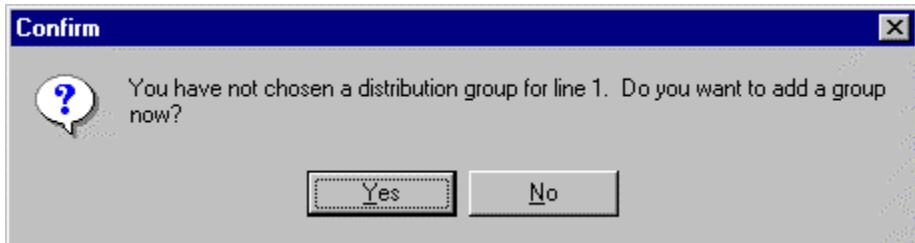

Figure 2-29. Purchase Order Confirm Dialog Box
- ◆ If it finds you have not chosen a distribution group, it will display a Confirm dialog box (Figure 2-29) and keep the Order window open so that you can add the information.